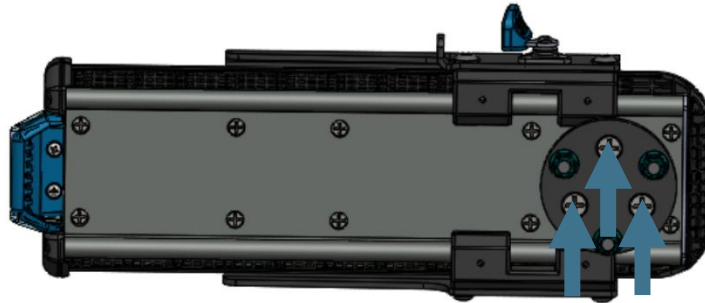

Figure 1
1. In order to install the ITRB you must first remove the mounting plate from the Mongoose XE or XLE. Remove the (3) 1/4"-20 screws and the mounting plate as shown. (Figure 1)